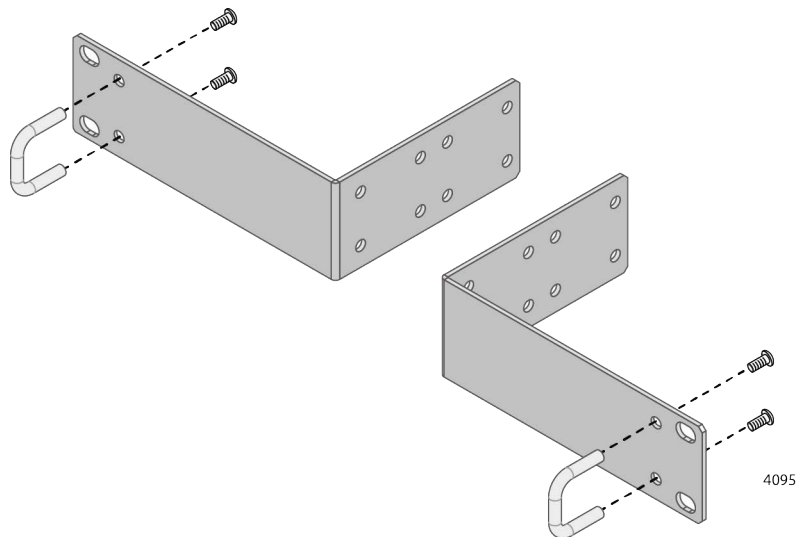

Figure 28. Attaching the Handles to the RKMT-J14 Brackets
3. Attach the two handles to the RKMT-J14 Brackets using the four M3x6mm screws included in the brackets kit. See Figure 28.